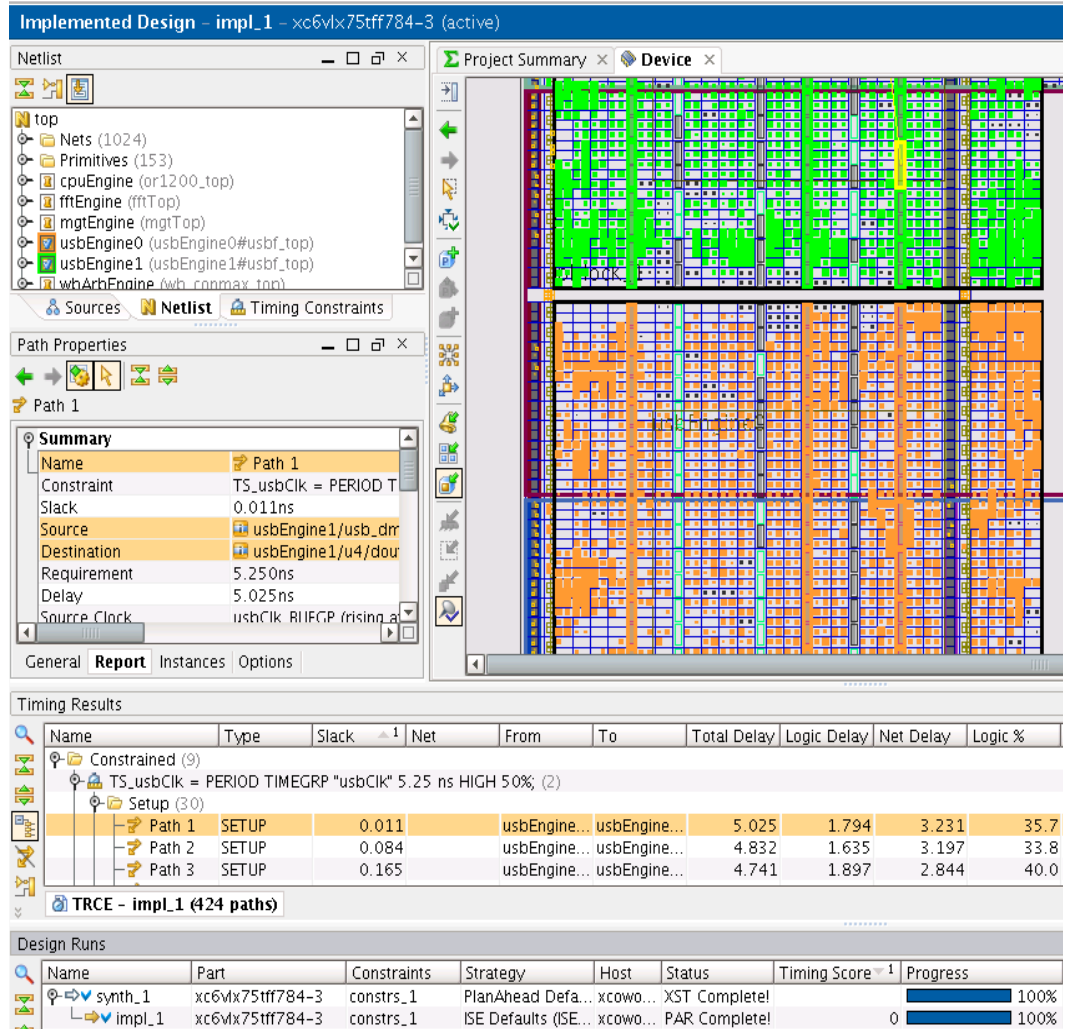

Figure 1-10: Verifying Successful Implementation Results
3. To verify the results were successful, look at the final timing score and view the detailed timing report (Figure 1-10). Note that the timing score is "0" and that worst case path listed still has positive slack. Also, the image in Figure 1-10 shows the logic of the two `usbEngine` instances highlighted in green and orange. This is just to show the placement was controlled by the `AREA_GROUP` constraints. To highlight the primitives of these two instances, select the two instances in the Netlist view, right-click and select **Highlight Primitives**.